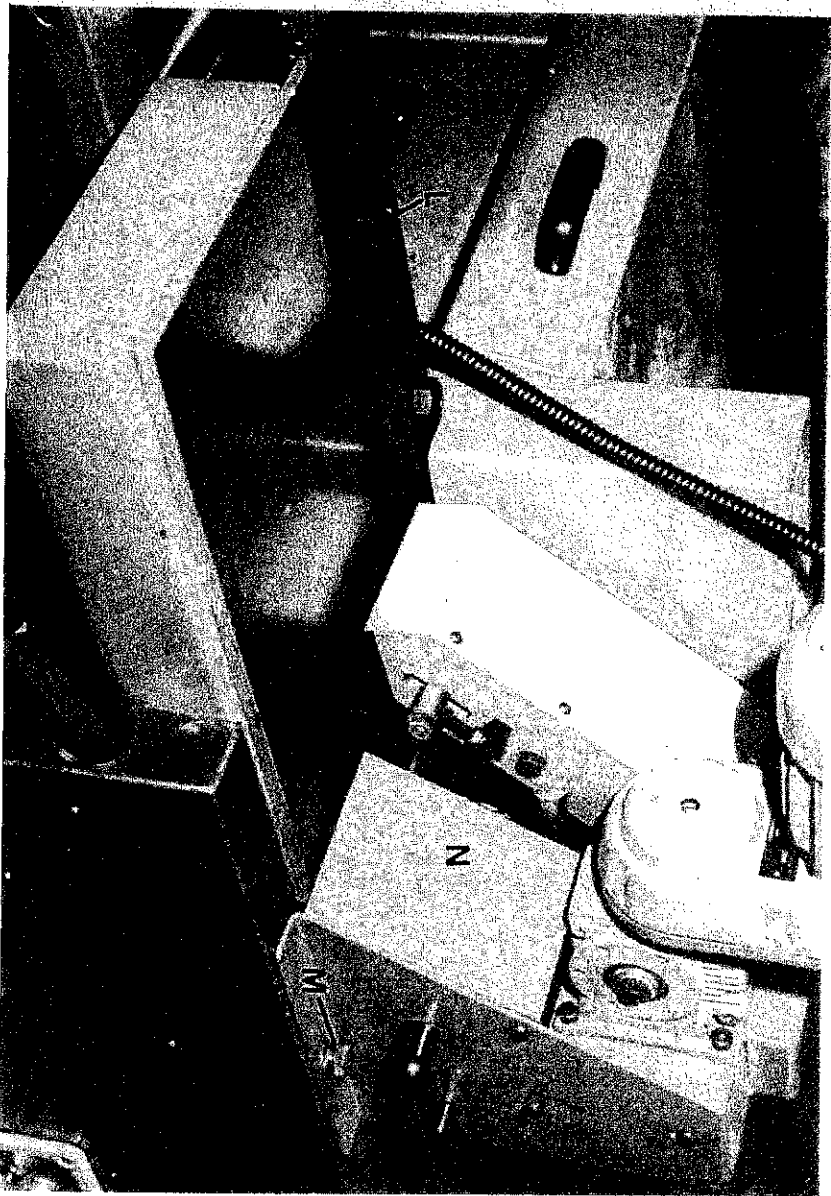

Fig 16
Outfeed planing fence "L" FIG. 16 is preset before despatch at our works and should not require further adjustment. It is however, important that the cutting circle of planing side cutterblock is always kept in line with outfeed planing fence.
- 2) Remove locking knob "M" FIG. 16 and lift power feed unit "N".